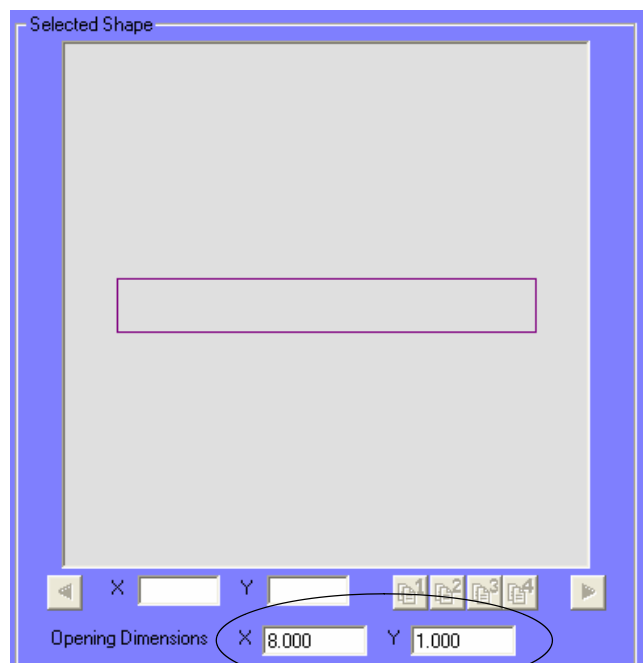

Figure 2.43
To add the last “title” opening to the design, click the “Insert Shape” tool, and select a rectangle shape from the menu. Enter an opening size of 8” (X) by 1” (Y) (Figure 2.43).